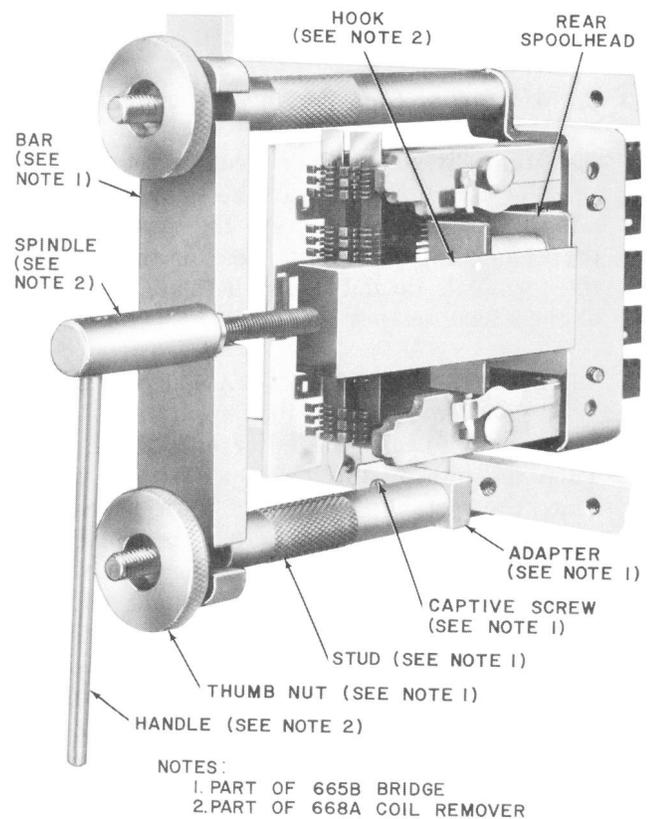

Fig. 7—286-Type Relay Removing Coil
(4) Turn the spindle of the 668A coil remover so the inner end of the screw is flush with the inner surface of its mounting. Insert the coil remover at the right of the relay so the hook portion of the remover is above the rear spoolhead of the relay. Then lower the coil remover so the hook is behind the rear spoolhead as shown in Fig. 7. Position the bar of the bridge on the studs with the end of the bar marked TOP uppermost and with the center